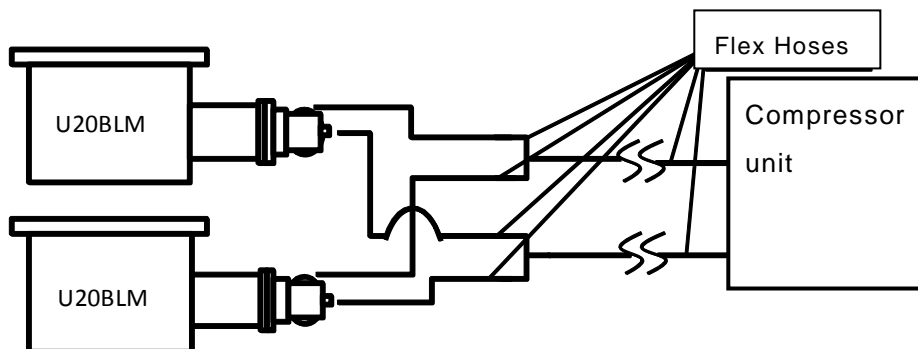

Figure 4-5 Laying flexible hoses
2. Connect the flexible hoses between the compressor unit and the cryopump as follows (see Figure 4-5):